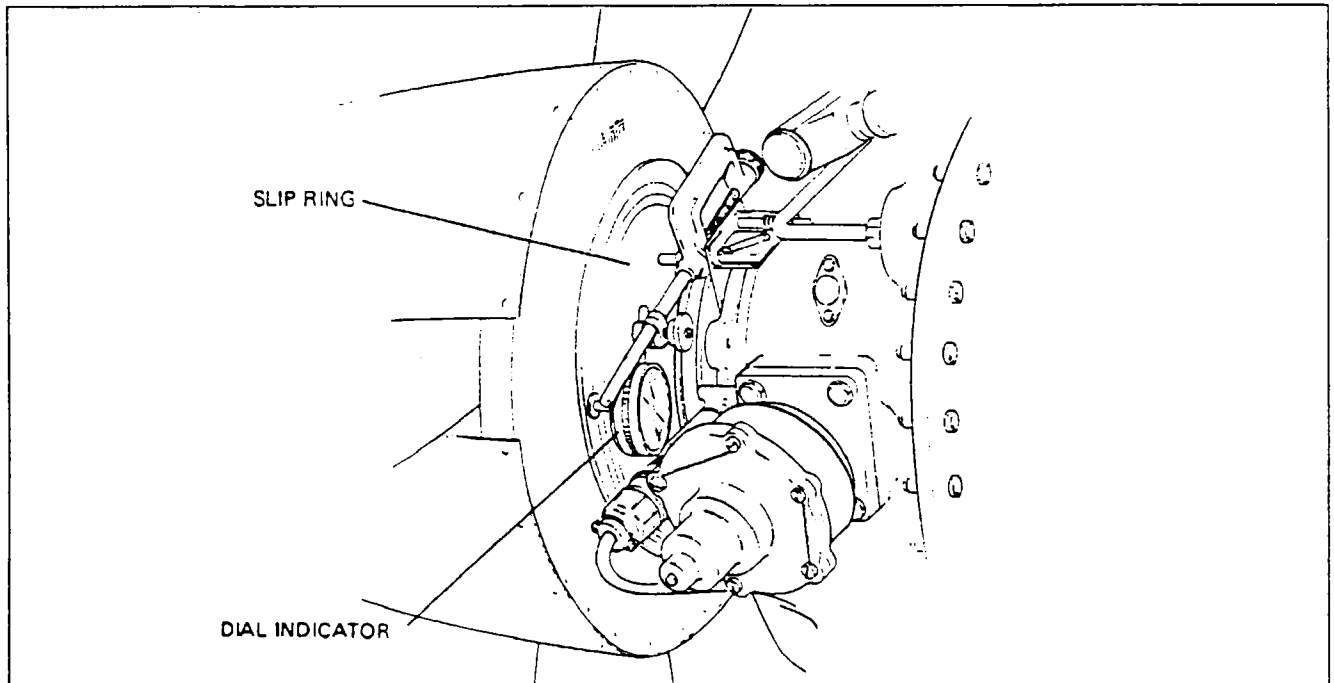

Figure 30-19. Typical Use of Dial Indicator
- B. If uneven wear is found or if wobble is noticed, set up dial indicator as shown in Figure 30-19 to check alignment of slip rings to propeller shaft.